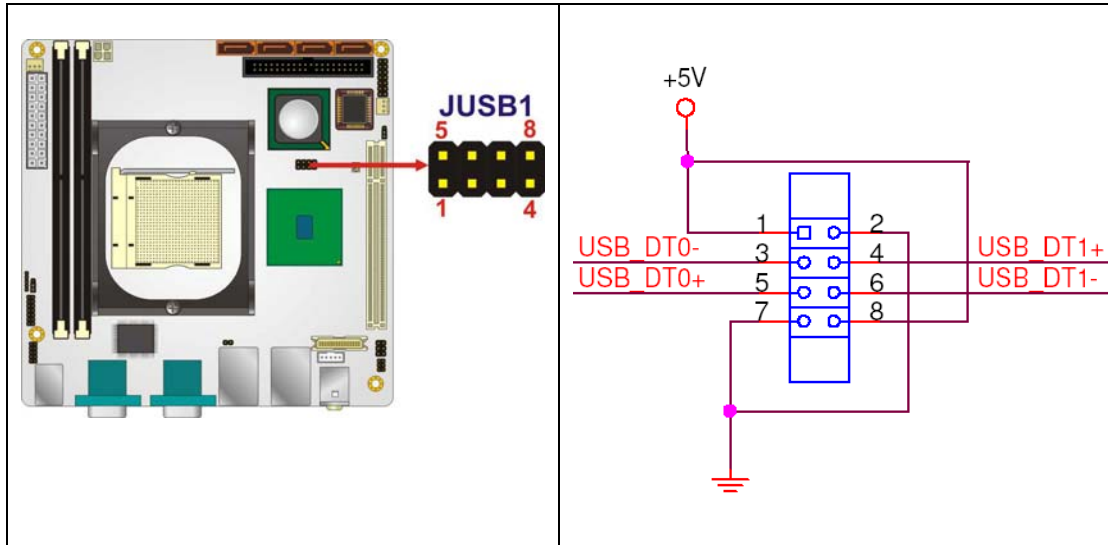

Figure 4-15: USB Connector Pinout Locations
- CN Location:** See **Figure 4-15**